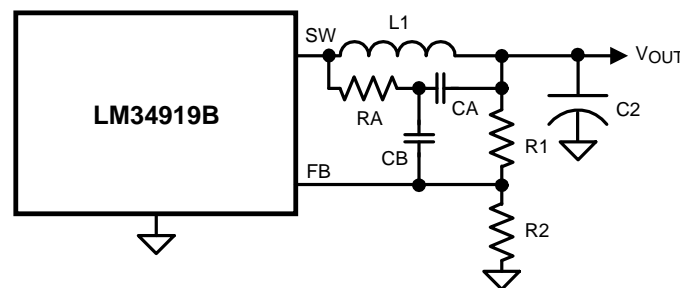

Figure 33. Minimum Output Ripple Using Ripple Injection
b) Minimum ripple configuration: The circuit of Figure 33 provides minimum ripple at V_{OUT} , determined primarily by C2's characteristics and the inductor's ripple current since R3 is removed. RA and CA are chosen to generate a sawtooth waveform at their junction, and that voltage is AC-coupled to the FB pin via CB. To determine the values for RA, CA and CB, use the following procedure: